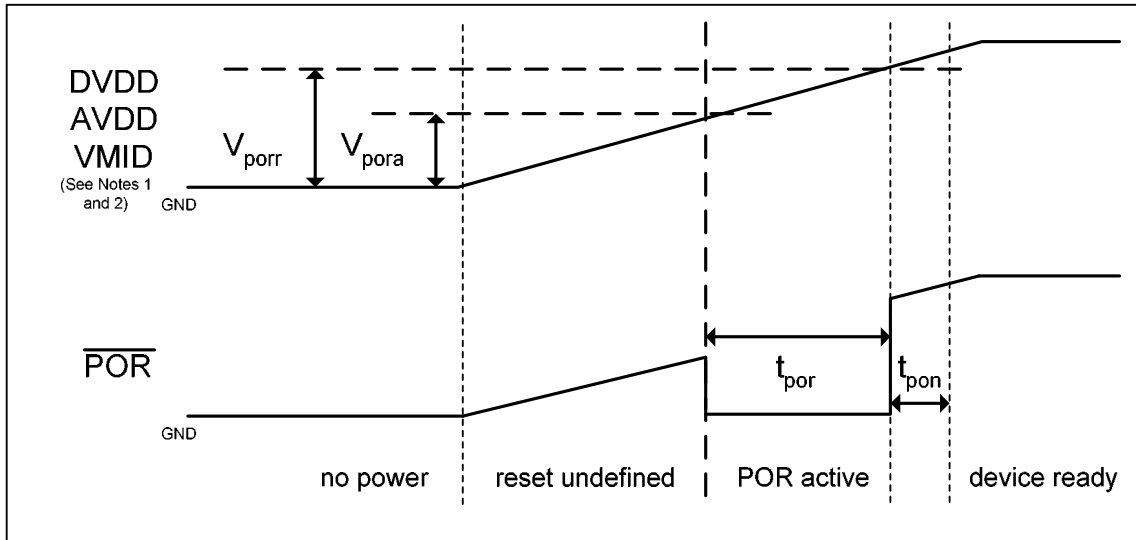

Figure 10 Power Supply Timing Requirements – power-on
- POR is activated when DVDD or AVDD or VMID reach their stated V_{pora} level (Figure 10).
- POR is only released when DVDD and AVDD and VMID have all reached their stated V_{porr} levels (Figure 10).